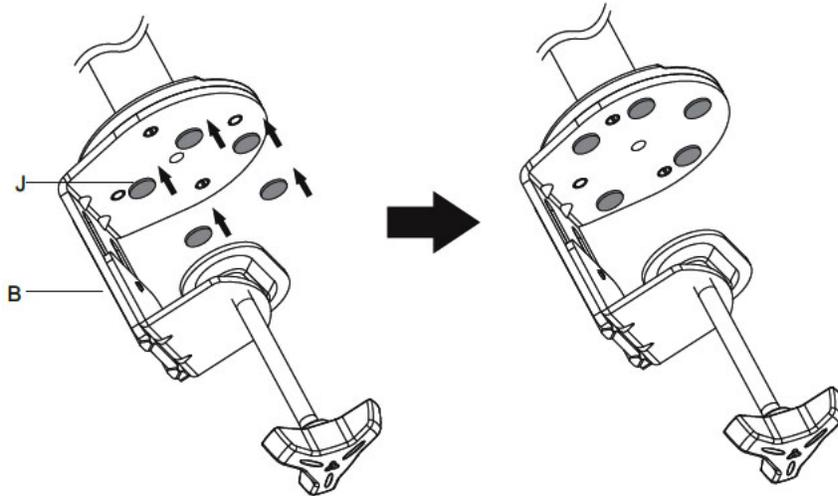

Figure 1
1. Place the Protective Pads (J) onto the C-Clamp (B), see Figure 1.